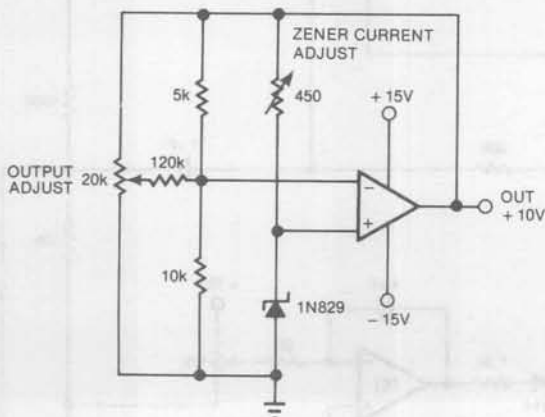

Fig 10—Build 100 of these circuits and some drift, some work and some don't function at all—what's happening?
15. Fig 10 depicts a high-precision voltage reference. The temperature-compensated zener has been carefully aged, and the resistors and op amp are also low-drift devices. After 100 of these circuits are built, long-term tests reveal drift over time to be worse than expected